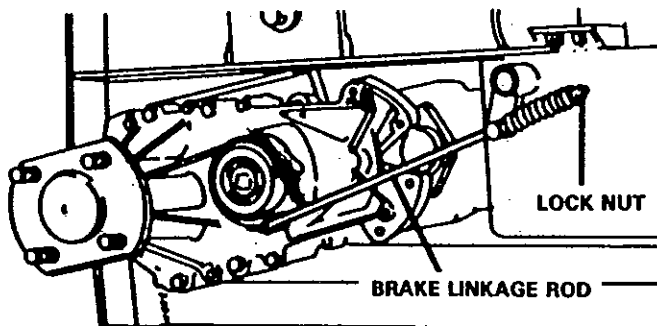

FIGURE 14
3. Shorten brake linkage rod by turning locknut clockwise (see Figure 14) until wheel can not be turned by hand.